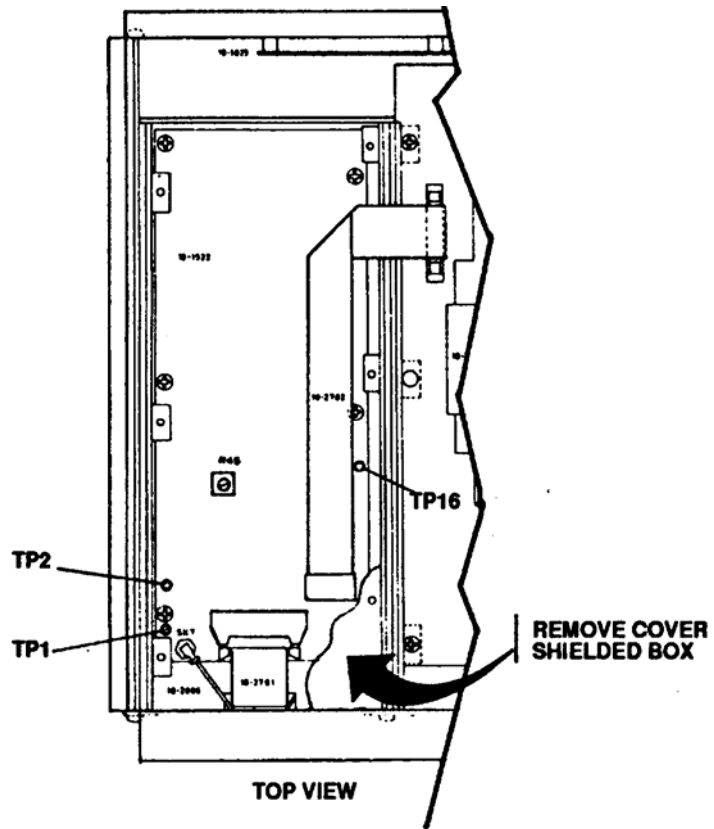
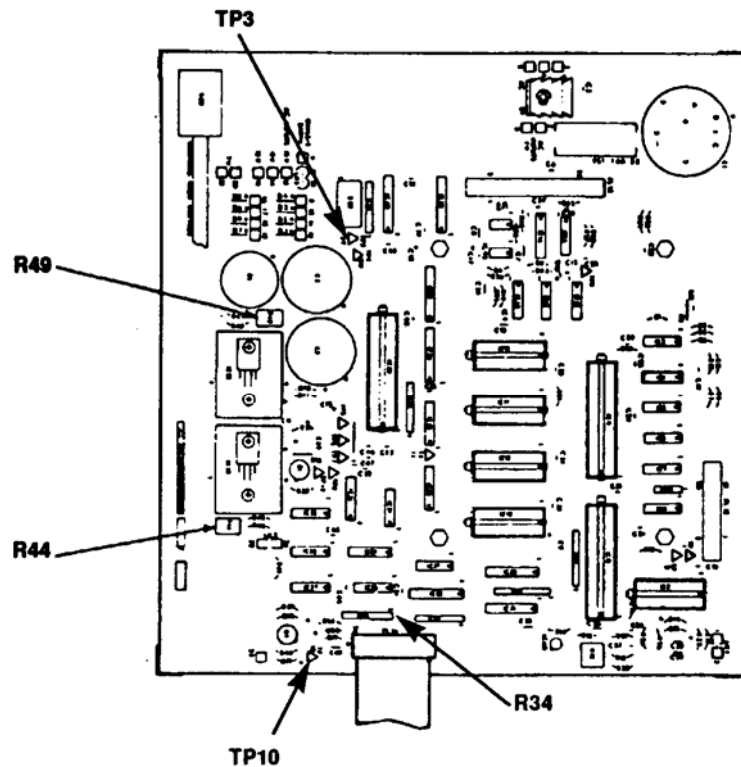

Figure 1. Top view of module assembly.
Figure 3. View of underside of module assembly.
²Figure 1.
a Connect digital multimeter positive lead to TP16 and negative lead to TP1 (fig. 1). If digital multimeter does not indicate +15.0 (±0.5) V, adjust R44 (fig. 3) for a +15.0 V indication (R).
b. Move positive lead to TP2 (fig. 1). If digital multimeter does not indicate -15.0 (± 0.5) V, adjust R49 (fig. 3) for a -15.0 V indication (R).
c. Move positive lead to TP3 (fig. 3). Digital multimeter will indicate + 5.0 (± 0.25) V.
d. Move positive lead to pin 1 of R34 (fig. 3). Digital multimeter will indicate +9.3 (± 1.0) V.
e. Move positive lead to TP10 (fig. 3). Digital multimeter will indicate +4.9 (± 0.4) V.